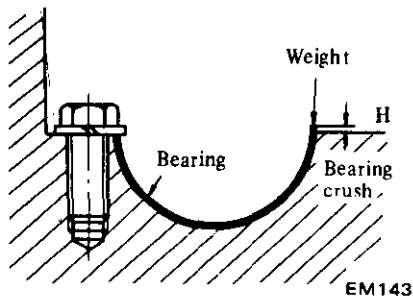

Fig. EM-70 Checking bearing crush
3. Then, measure bearing crush "H" with a feeler gauge. See Figure EM-70. The standard bearing crush value is listed below.